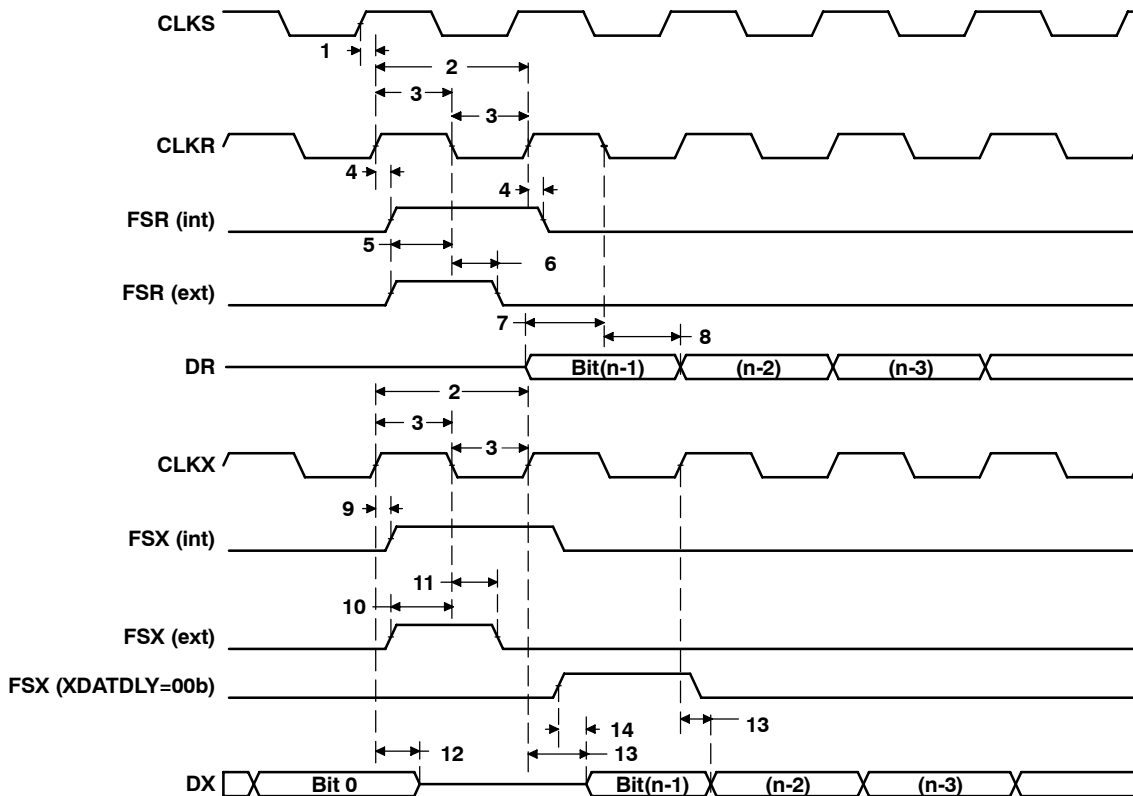

Figure 32. McBSP Timing Diagram
**timing requirements for McBSP†‡(see Figure 32)**
switching characteristics over recommended operating conditions for McBSP†‡§ (see Figure 32)